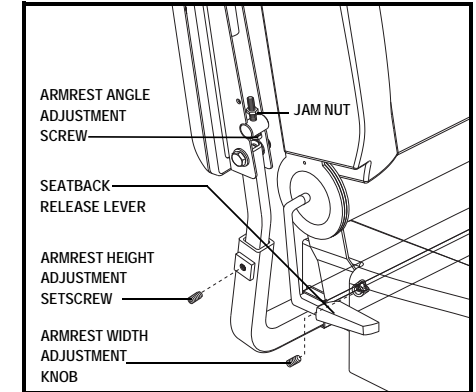

Figure 14. Armrest and Seatback Adjustments
If your power chair is equipped with a manual recline seatback, you can adjust the seatback angle with the seatback release lever. The lever is located on the right side of the seat base. **See figure 14.**
1. Locate the armrest width adjustment knob on each side of the armrest receiver bracket. **See figure 14.**
1. Loosen the setscrew on the armrest. **See figure 14.**